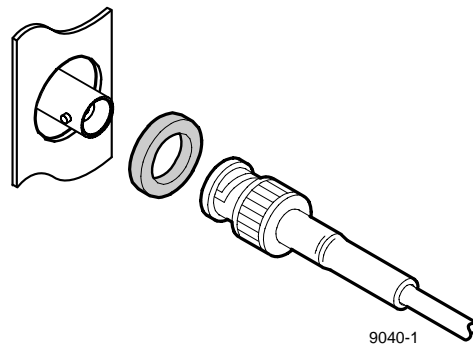

Figure 2-6. BNC Connection With EMI Gasket
To insure compliance with EMI standards, all BNC cable connections require that an EMI suppression gasket be attached as shown in Figure 2-6. Your Profile system shipment included a set of gaskets.
2. Place EMI gaskets on the BNC connectors as shown in Figure 2-6, page 2-7.
1. Place EMI gaskets on the four BNC connectors as shown in Figure 2-6, page 2-7.
1. Place an EMI gasket on the BNC connectors being used as shown in Figure 2-6, page 2-7.
1. Place an EMI gasket on each BNC connector as shown in Figure 2-6, page 2-7.
1. Place an EMI gasket on the three BNC connectors as shown in Figure 2-6, page 2-7.